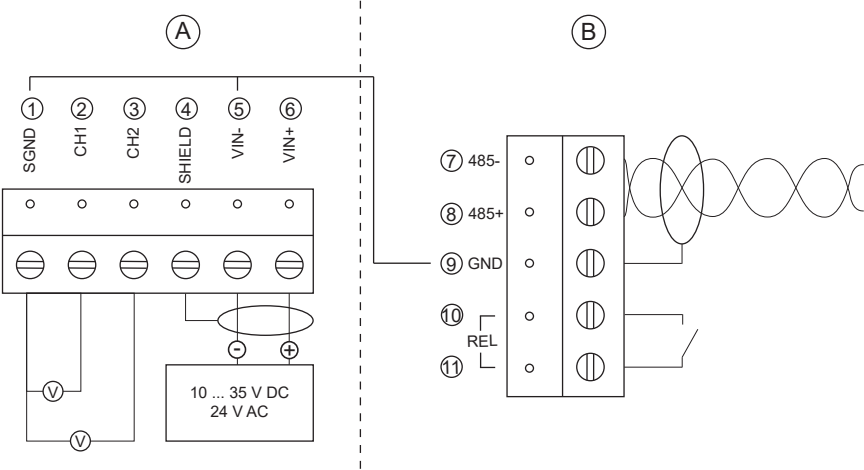

Figure 12 Power supply and voltage outputs (A), and serial communication and relay (B)
- 1) Numbers 1 ... 6 in the first column of the wiring table refer to section (A) and numbers 7 ... 11 to section (B) in Figure 12 \(page 26\).
- 2) There is an internal connection between numbers 1 and 5 on section (A) and number 9 on section (B).
- 3. Connect the wires as indicated in Figure 12 \(page 26\) and in Table 3 \(page 26\). Suitable wire size is 0.5 ... 1.5 mm² (20 ... 15 AWG).